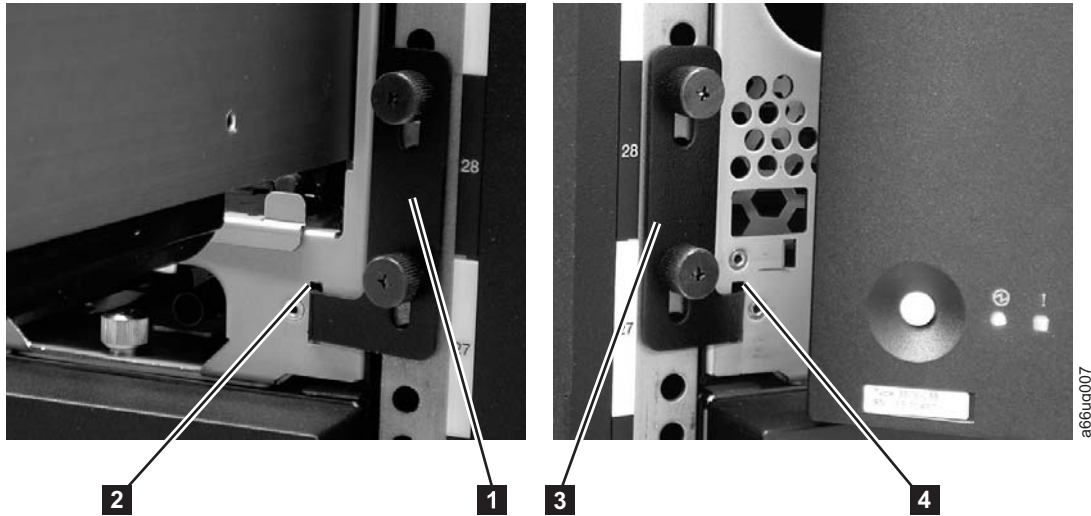

Figure 11-14. Removing the rack ears on a Control Module
- b. Remove the right rack ear (**2** in Figure 11-14 on page 11-20).
- c. Remove the left rack ear (**3** in Figure 11-14).